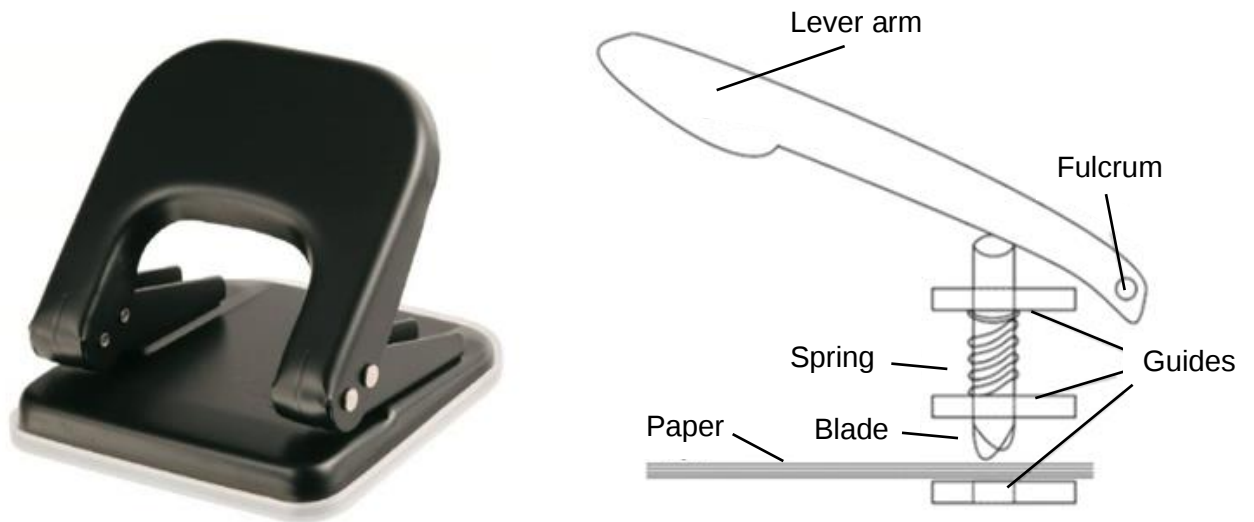

Fig. 3.3
- (b) Fig. 3.3 shows a hole puncher and the side view of the mechanism.